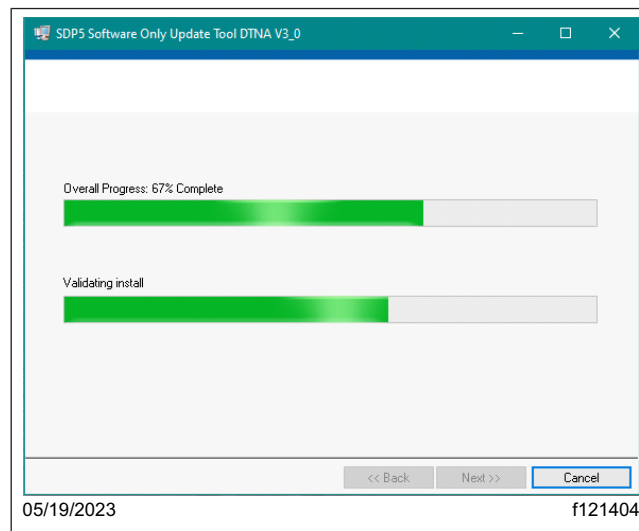

Fig. 11, Software Installation in Progress
13. The software installation begins. See Fig. 11.